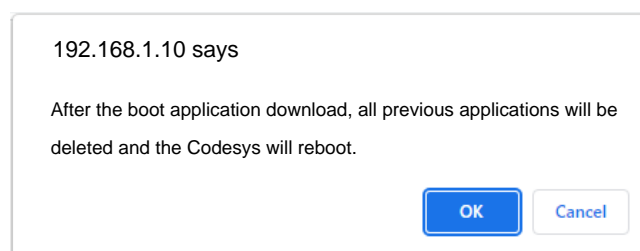

Figure 5.5: Application upload confirmation screen.
- Click on **Start App Download**. A confirmation screen will be displayed. Click **OK** to confirm the application upload or **Cancel** to abort the operation. Figure 5.5 shows the application upload confirmation screen.